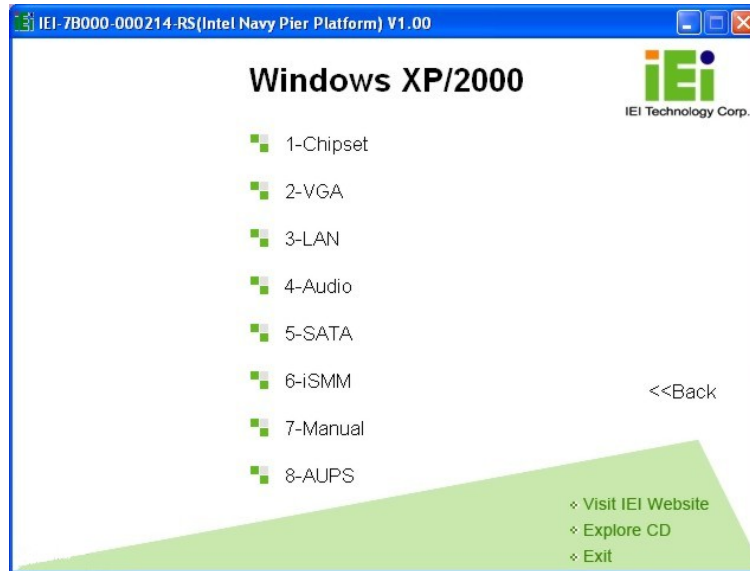

Figure 7-3: Drivers
Step 6: The list of drivers in **Figure 7-3** appears.
Step 1: Access the driver list shown in **Figure 7-3**. (See **Section 7.2**)
Step 1: Access the driver list shown in Figure 7-3. (See Section 7.2)